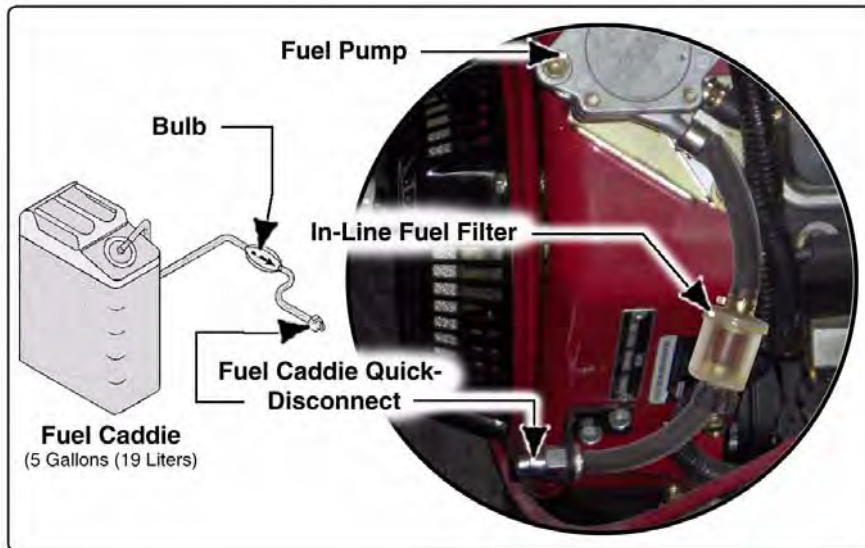

Figure 3-8: Typical Fuel Caddie Quick-Disconnect
3. If a fuel caddie is required, connect the caddie fuel line to the quick-disconnect on the engine. (See Figure 3-8: "Typical Fuel Caddie Quick-Disconnect.")
2. **Skid unit only** - Connect the fuel caddy to the fuel line quick-disconnect on the engine base - see Figure 3-8: "Typical Fuel Caddy Quick-Disconnect" on page 40.